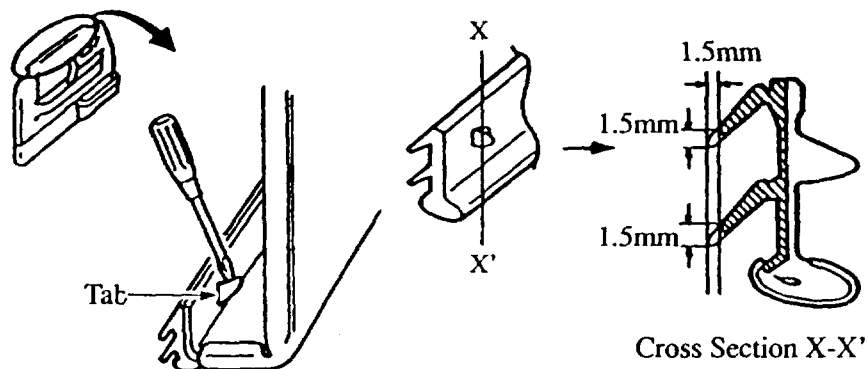

Figure 4: Top of inner door panel.
3. Replace glass inner weatherstrip with new strip. **Figure 4.**